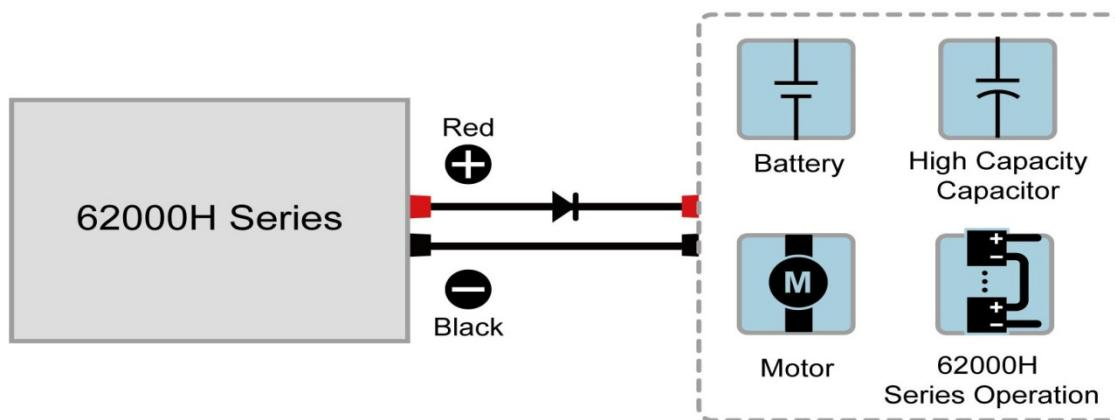

Figure 1-1
1. If the power supply is connected to a battery or inductance load such as a motor, connect a diode in series with the output port to prevent the load current from reversing and damaging the supply (see Figure 1-1).